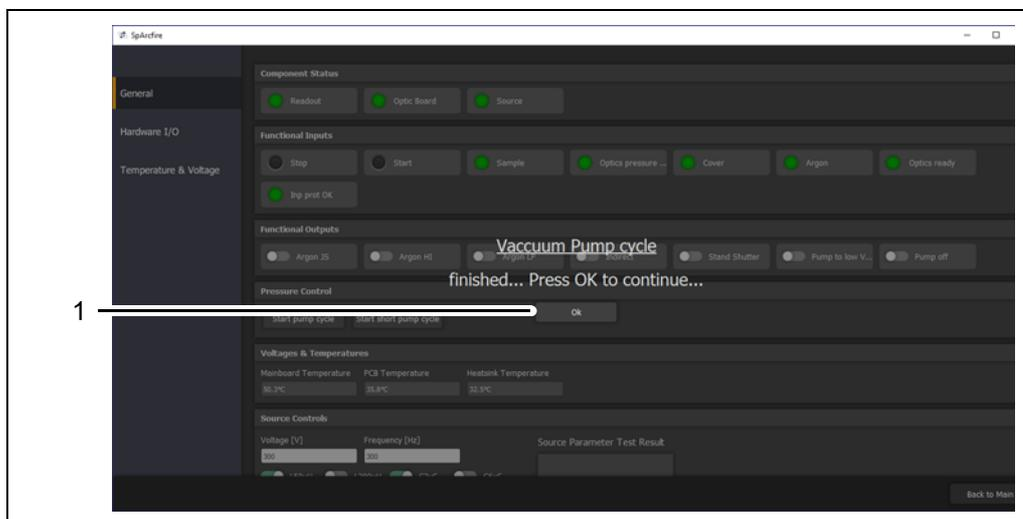

Fig. 5-7 "Vacuum pump cycle finished" window
6. Confirm the message with "OK" (1, fig. 5-7).